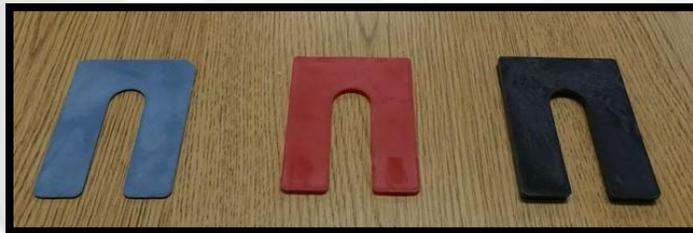

Figure 9: Horseshoe Shims
- A) Plastic horseshoe shims as shown in figures 9 & 11 must be used for supporting the door jambs. Various thicknesses will be needed to provide adequate support. Adequate support is achieved when the shims are tightly compressed in place without distorting the frame.